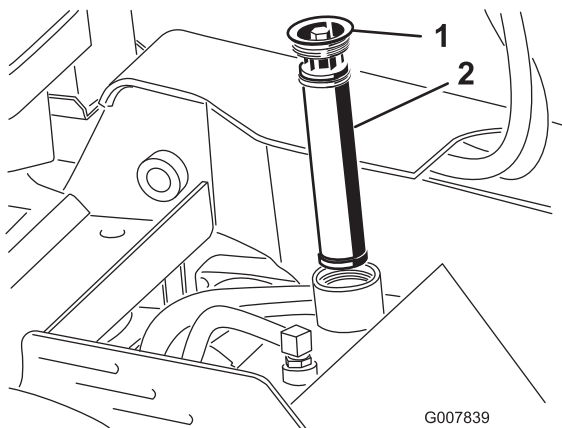

Figure 19
5. Clean the area around the filler neck of the hydraulic tank and remove the cap and filter from the filler neck using a socket (Figure 19).